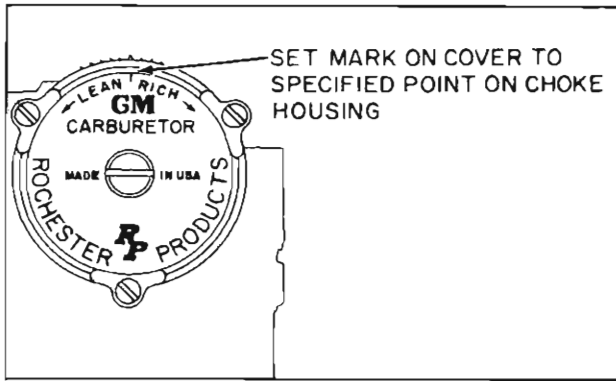

Fig. 4-120 Choke Setting
10. Rotate the thermostatic cover and coil assembly clockwise until the tang on the thermostatic coil picks up the tang on the choke piston lever and begins to close the choke valve. Keep rotating in a clockwise direction until the index mark on the choke cover is in the proper position, as specified, with the center mark on the choke housing. See Fig. 4-120.